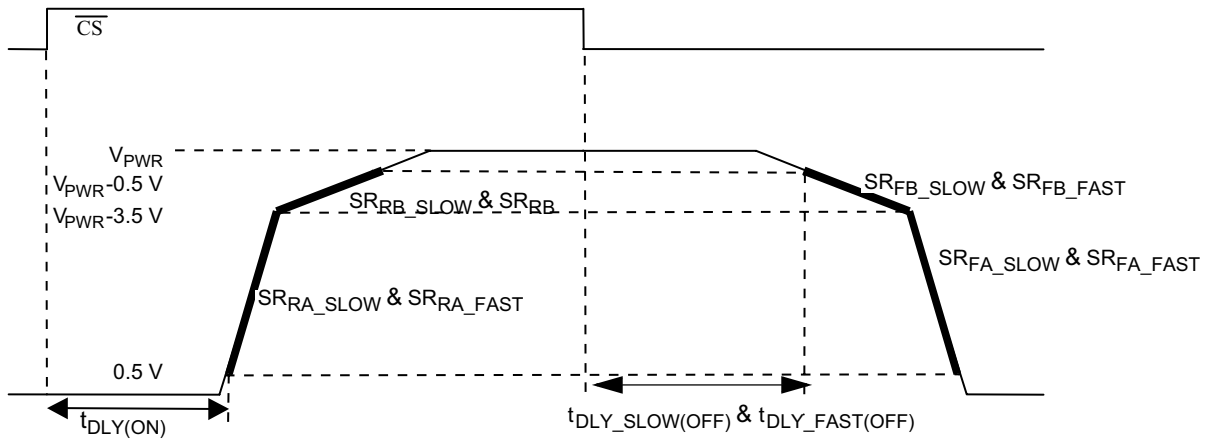

Figure 4. Output Slew Rate and Time Delays
19. Rise and Fall Slew Rates A measured across a 5.0Ω resistive load at high side output = 0.5V to V_{PWR} -3.5V (see Figure 4, page 12). These parameters are guaranteed by process monitoring.
20. Rise and Fall Slew Rates B measured across a 5.0Ω resistive load at high side output = 0.5V to V_{PWR} -3.5V (see Figure 4). These parameters are guaranteed by process monitoring.